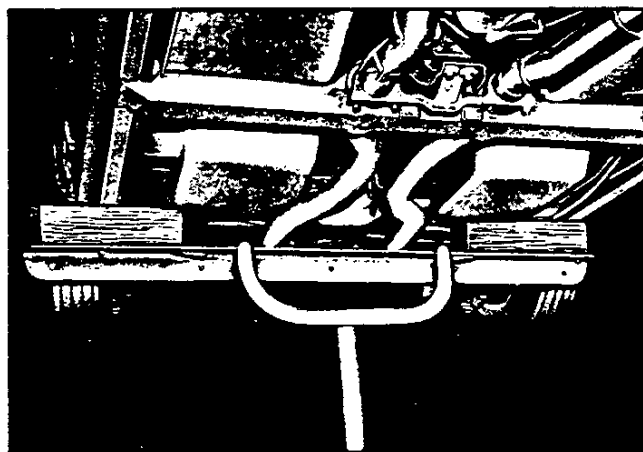

Fig. 6-Frame Lift Adapters-19000 Series
- b. If rear axle work is contemplated, use either suspension adapters or drive-on adapters at the front and frame lift adapters as shown in Figure 6. If frame lift adapters are not available, use jack stands.
**NOTE:** Wooden blocks, bolted to steel beam shown in Figure 6 are necessary to allow beam to clear exhaust system.